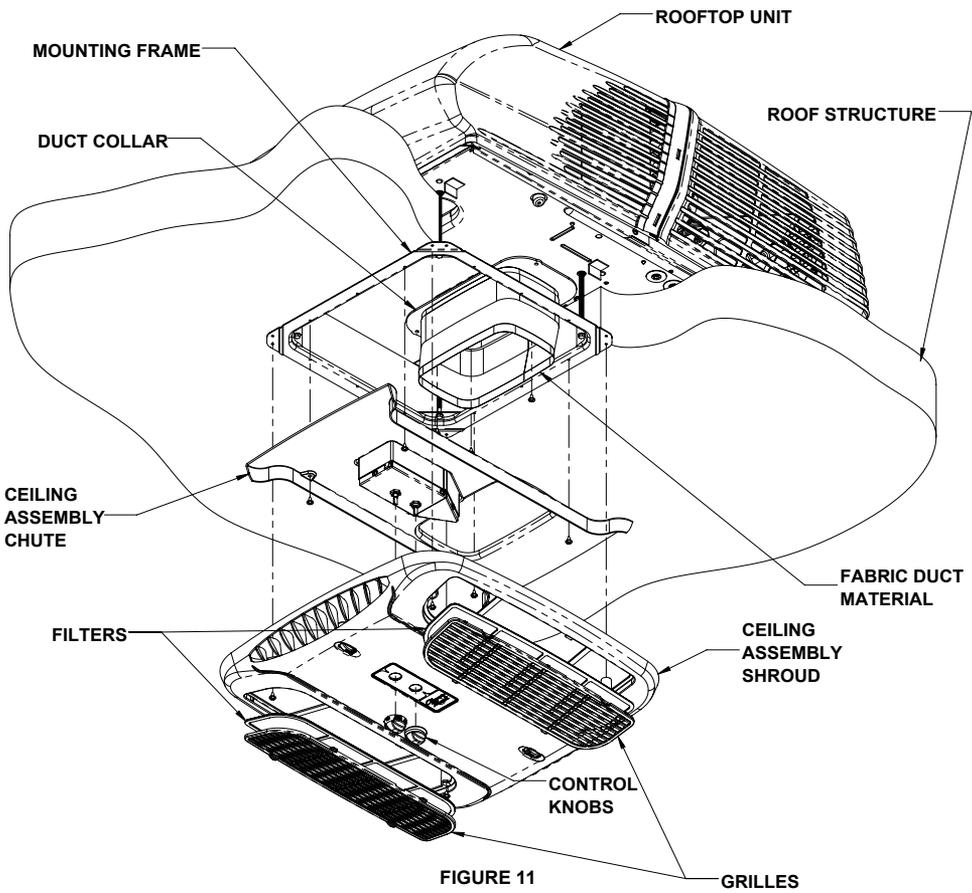

FIGURE 11
- B.** Fasten the duct collar to the Heat Pump basepan with 3 provided screws (See Figure 11).
- H.** Raise the ceiling assembly chute to the unit mounting frame and secure the chute with 4 provided screws (See Figure 11).
- K.** Raise the ceiling shroud, ensuring it meshes with the chute, and secure to mounting frame with 4 provided screws (See Figure 11).